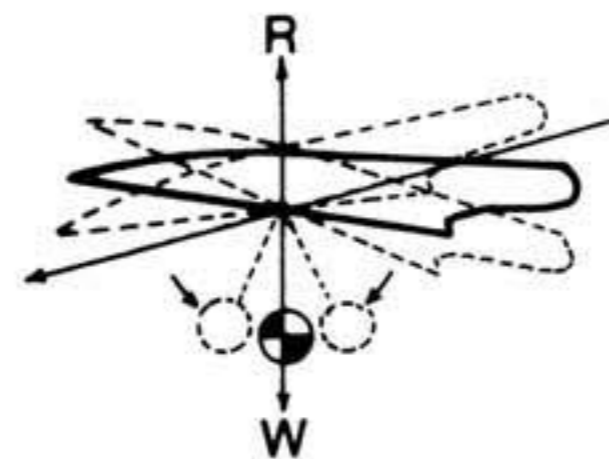
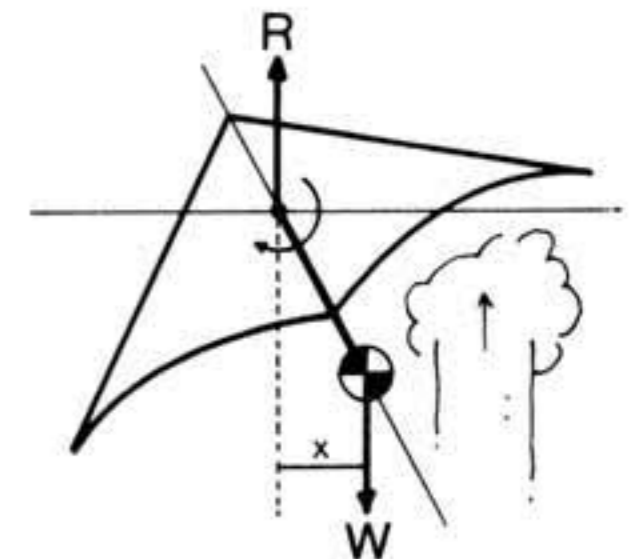

Fig. 21 Pendular stability.
Fig. 25 Pendular stability in roll.
moment. See Fig.21. 9.0 Just as alterations to pitch are made by CG shift, alterations to roll are made by the same technique. Turns are normally made by rolling and pitching the glider as an integrated and balanced movement. I hope to make flight control the subject of a further article, so will only deal with roll as a simplified alternative axis to pitch.
9.2 In the same way that pendular stability acts as a restorative in pitch, see Fig.21, a momentary disturbance in roll is counteracted by automatic displacement of the CG sideways, x in Fig.25. Re-leveling of the wing swiftly follows.